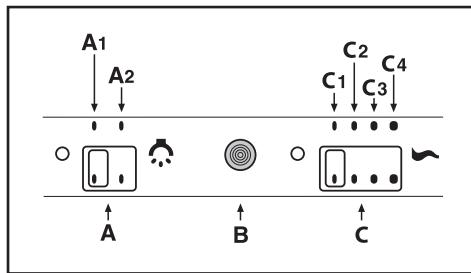

Fig.9
- **Commands slider (Fig.9)** the key symbols are explained below: